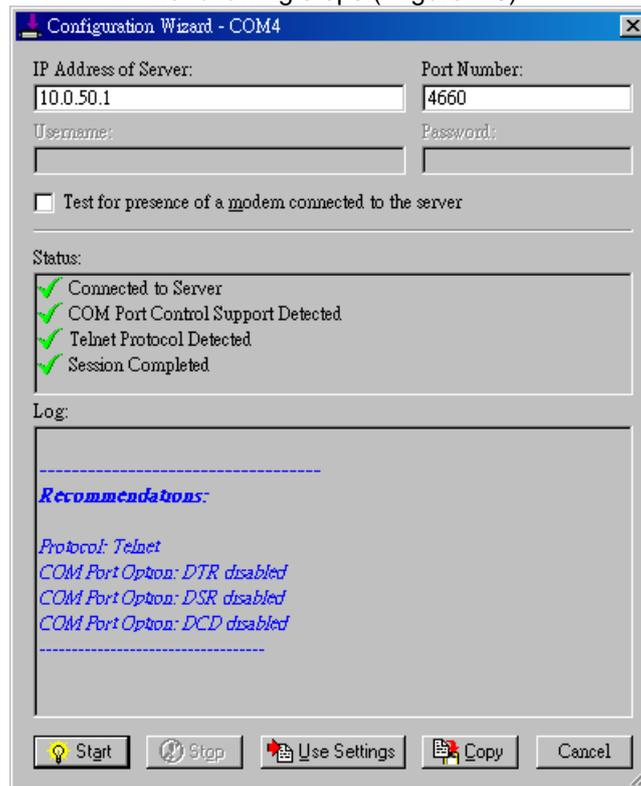

Figure 4.5 Configuration Wizard
One configure each Serial/IP COM port as follows: (Figure 4.5)
- Click the **Configuration Wizard** button and then click the **Start** button that appears in the wizard window. This important step verifies that the Virtual COM Redirector can communicate with the serial server using the settings one have provided. If the **Log** display does not show errors, click the **Use Settings** button in the wizard, which makes the recommended settings effective and returns one to the Control Panel to continue with the following steps.(Figure 4.5)